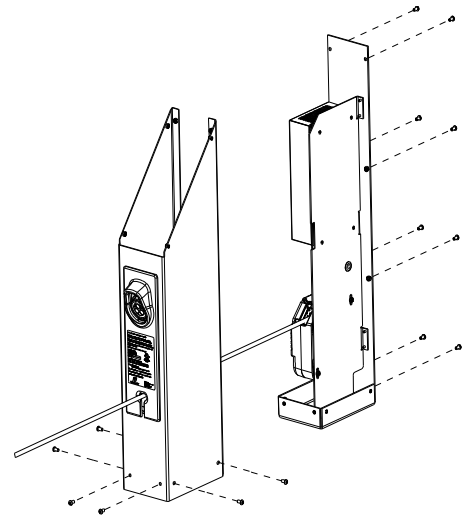

Figure 5 – Front Housing Removed
5. Remove 6 screws in the lower front and sides of the unit that attach the front housing to the charging base. Remove 8 screws in the back of the unit that attach the front housing to the charging base. Retain screws for later installation. Gently lift the front housing ~ 2" inch and slide forward and out of the way. (See Figure 5)